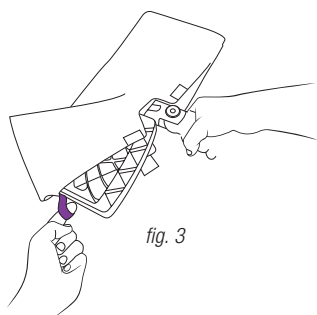

fig. 3
**3** Use the lavender loop on the side of the cleaning pocket to slide the mop head into the pocket. Then secure the quick fasteners on the top of the pocket to lock in place. **(fig. 3)**